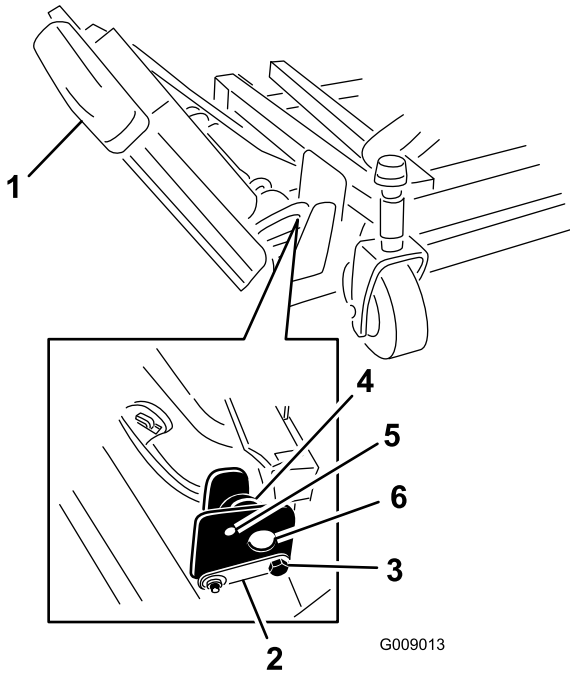

Figure 3
1. Remove the nuts securing the front and rear stop bolts to the right winglet-deck mounts (Figure 3).
2. While supporting the right winglet, remove the front and rear stop bolts from the deck mounts (Figure 3).